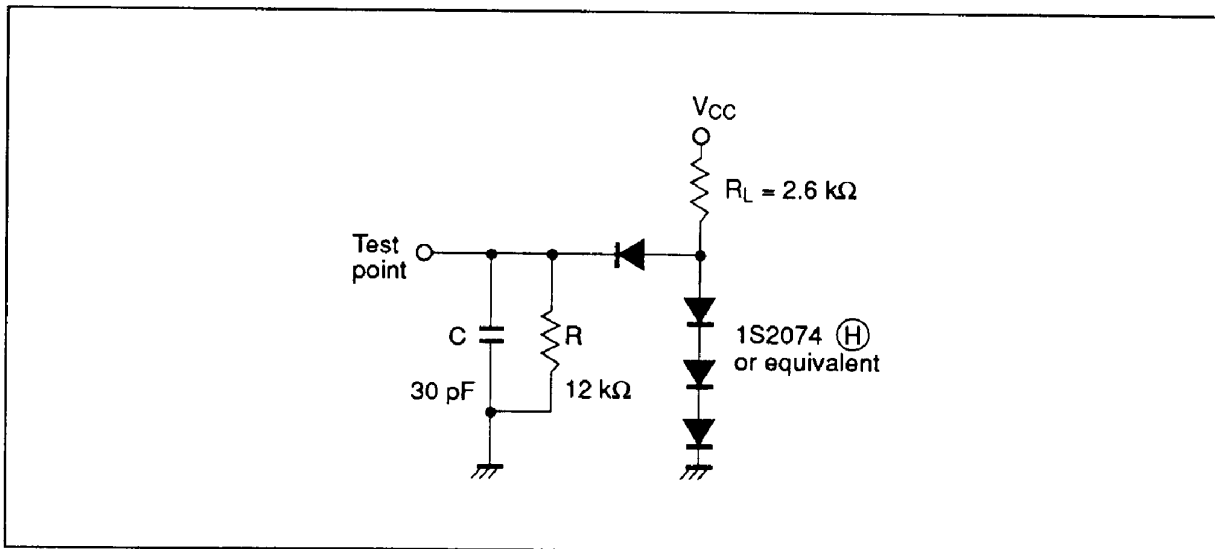

Figure 74 Load Circuit for Timing Measurement
| Output transmit clock cycle time | t_{Scyc} | SCK ₁ , SCK ₂ | 1 | — | — | t_{cyc} | Load shown in figure 74 | 1, 2 |
| Serial output data delay time | t_{DSO} | SO ₁ , SO ₂ | — | — | 600 | ns | Load shown in figure 74 | 1, 2 |
2. Refer to figure 74.
| Output transmit clock cycle time | t _{Scyc} | SCK ₁ , SCK ₂ | 1 | — | — | t _{cyc} | Load shown in figure 74 | 1, 2 |
| Serial output data delay time | t _{DSO} | SO ₁ , SO ₂ | — | — | 300 | ns | Load shown in figure 74 | 1, 2 |